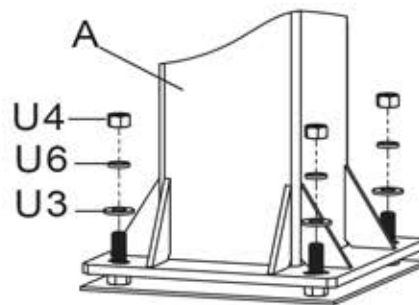

FIGURE 1B
- Remove the Padding from Main Post (A). Place the Main Post (A) over the J-Bolts. Slide a 16mm Thick Washer (U3), a Lock washer 16mm (U6) and thread a 16mm Hex Nut (U4) to each J-bolt. Tighten the Nuts only a few turns onto the J-Bolts as shown in FIGURE 1B.
- If the Main Post (A) is not exactly vertical, adjust the 16mm J-Bolt Hex Nuts (U4) located under the Post base. Tighten all of the Hex Nuts (U4) Above Post base when Main Post (A) is vertical.